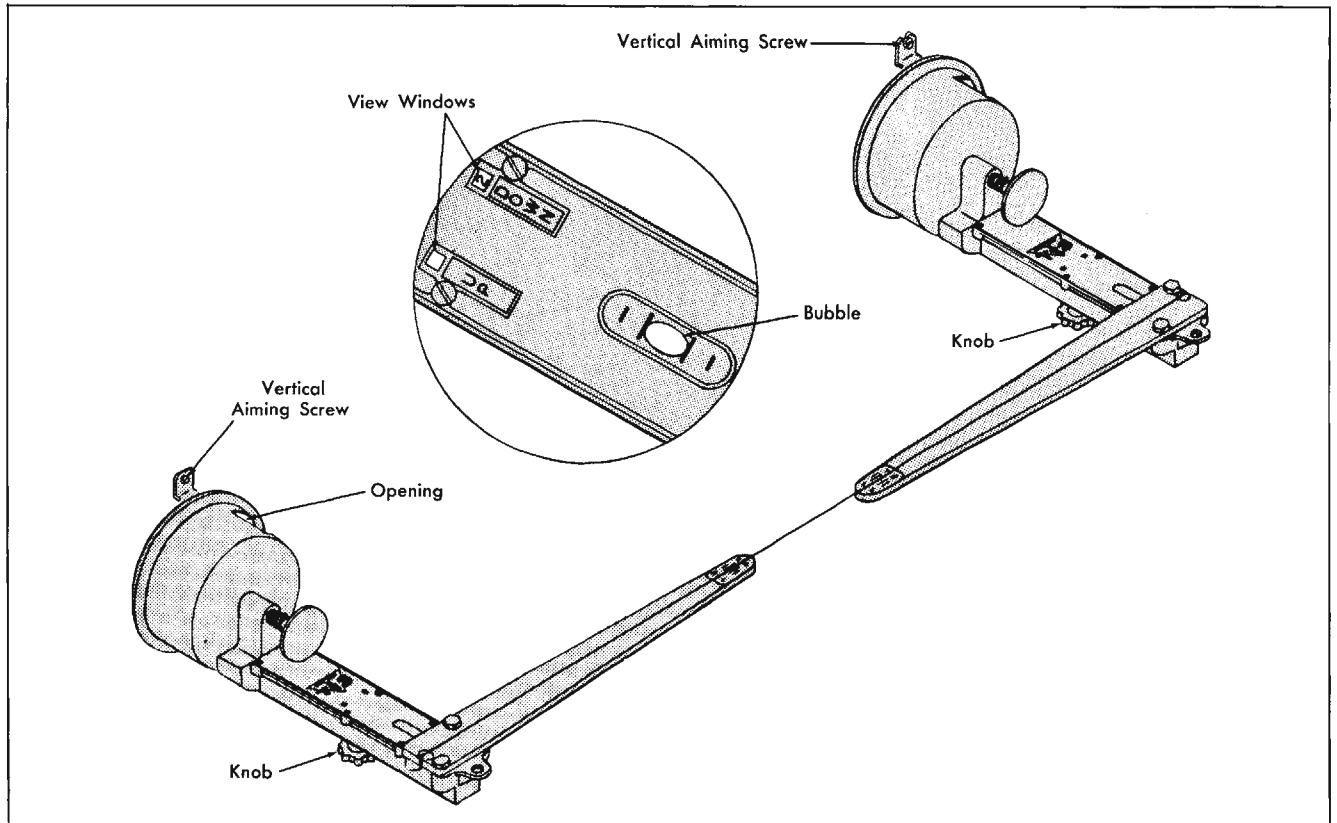

Fig. 14-67 Vertical Aim
- a. Loosen knob "O" on both aimers and move slide until numeral "2" appears in "down" view window. Tighten knobs. (Fig. 14-67)